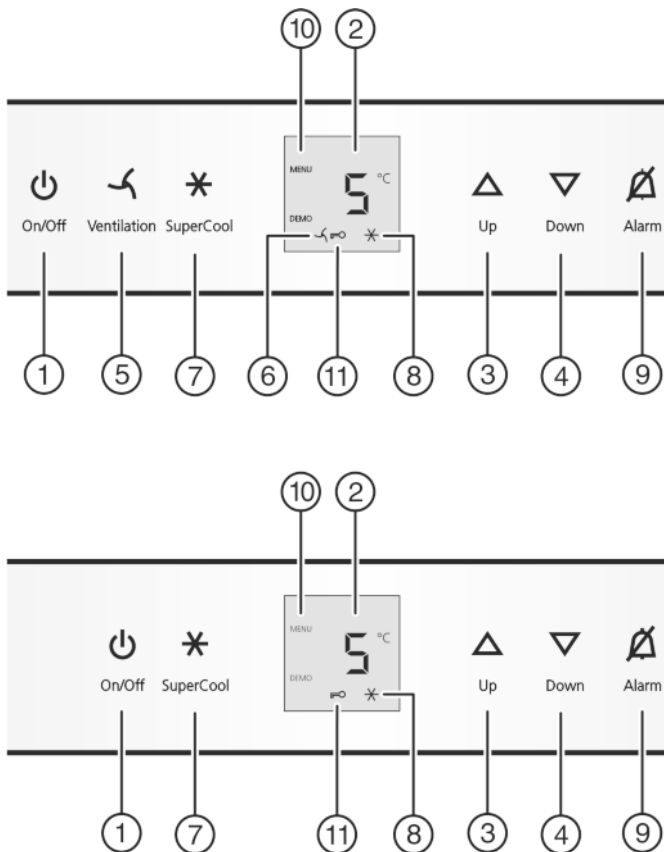

Fig. 2
- ▶ Press On/Off button Fig. 2 (1).
- ▶ To activate the setting mode: press SuperCool button Fig. 2 (7) for about 5 s.
- ▷ The menu symbol Fig. 2 (10) shines.
- ▶ Briefly press the SuperCool button Fig. 2 (7) to confirm.
- ▶ to activate the child lock, briefly press the SuperCool button Fig. 2 (7).
- ▷ The child lock symbol Fig. 2 (11) shines. **c** flashes in the display.
- ▶ to deactivate the child lock, briefly press the SuperCool button Fig. 2 (7).
- ▷ The child lock symbol Fig. 2 (11) goes out. **c** flashes in the display.
- ▶ To deactivate the set-up mode: press On/Off button Fig. 2 (1).
- ▶ Press alarm button Fig. 2 (9).
- ▶ For a higher temperature setting: press Up button *Fig. 2 (3)*.
- ▶ For a lower temperature setting: press Down button *Fig. 2 (4)*.
- ▶ Briefly press SuperCool button *Fig. 2 (7)*.
- ▷ The SuperCool symbol *Fig. 2 (8)* lights up in the display.
- ▷ The SuperCool symbol *Fig. 2 (8)* goes out in the display.
- ▶ Briefly press the fan button *Fig. 2 (5)*.
- ▷ The fan symbol *Fig. 2 (6)* shines.
- ▷ The fan symbol *Fig. 2 (6)* goes out.